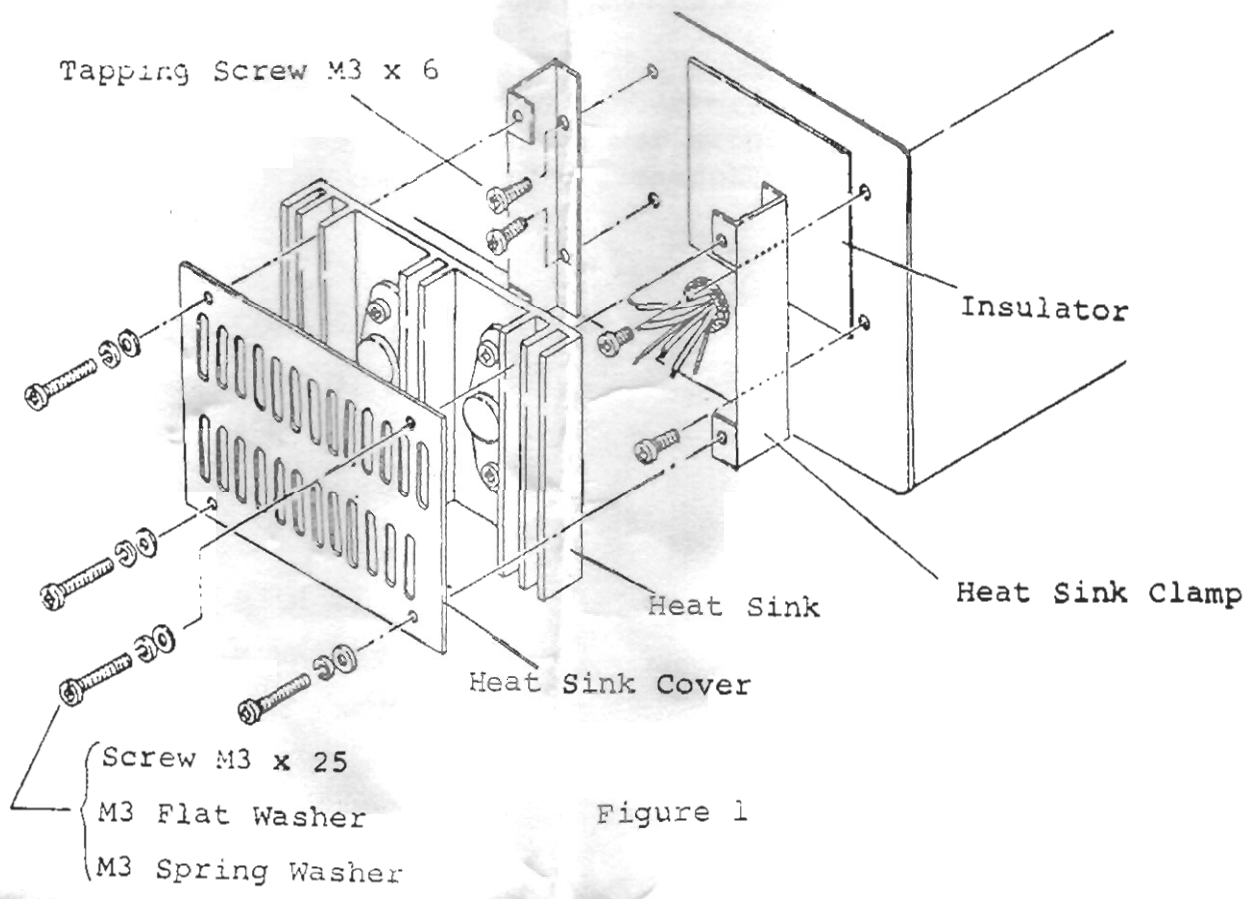

Figure 1
- 3) Fix the Heat Sink Clamps on the back panel as illustrated in Figure 1.